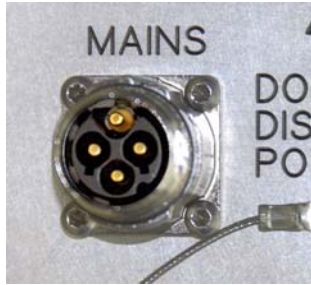

figure 4-14 Mains power connector
7. Unscrew the protective cover from the Mains connector of the RU (figure 4-14).